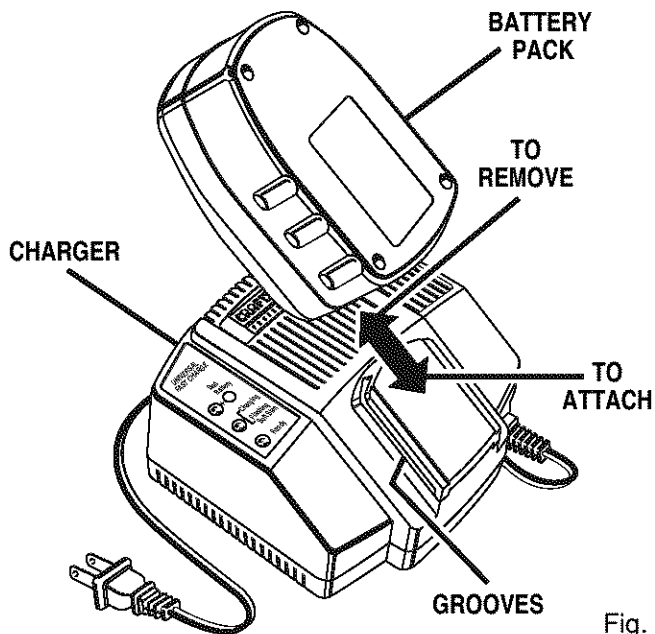

Fig. 8
- Attach battery pack to charger by aligning raised ribs on battery pack with grooves in charger, then slide battery back onto charger. *See Figure 8.*